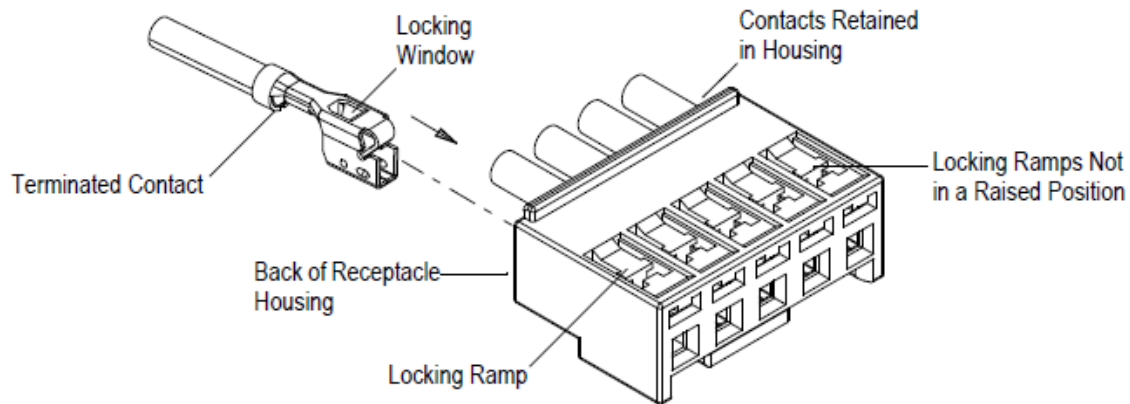

Figure 5
- Modified contact illustration in Figures 5 and 7
The crimped contact must be aligned with the contact cavity from the back of the receptacle housing, and oriented so that the locking window is aligned with the receptacle housing locking ramp. The contact must be inserted straight into the receptacle housing until it bottoms and there is an audible or tactile click. The wire must be pulled back lightly to ensure retention of contact in receptacle housing. Refer to Figure 5.